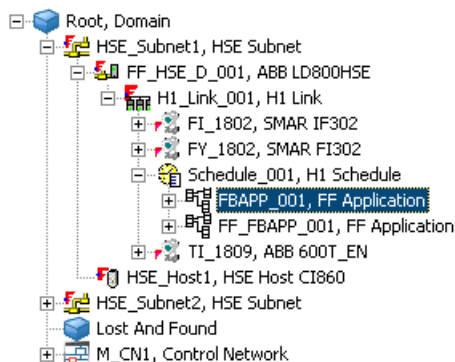

Figure 164. Selection of the FF Application
1. Select an **FF Application** object in the Plant Explorer **Control Structure** (refer to Figure 164).